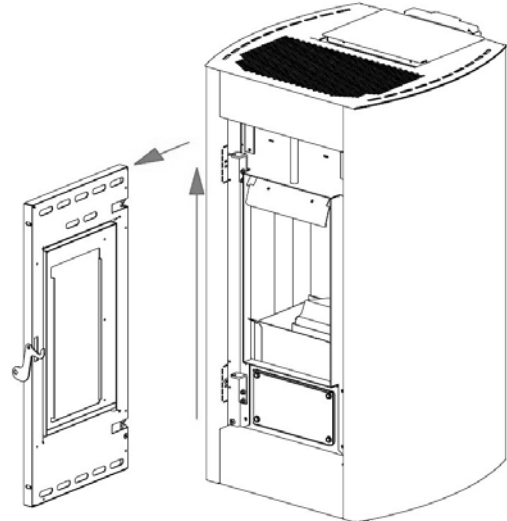

Fig. 20 - Door removal
- Lift the door to allow the door pivots to slide out of the structure bracket (see **Fig. 20**).